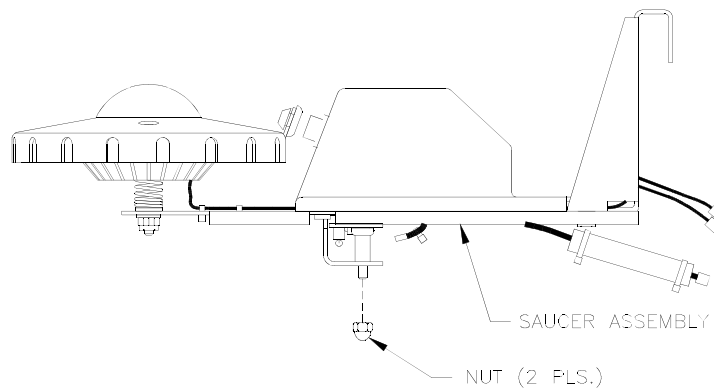

FIGURE 11
1. Remove the two nylon lock nuts (p/n FSM-083-ESNA000) from the underside of Saucer Assembly (p/n AFM-SUB-A20608) (See Fig.11)